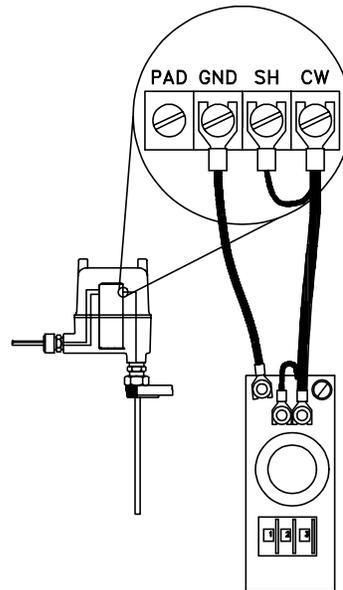

Figure 3-11
In some applications, it is difficult or even impossible to completely fill or empty a vessel. In such a case, it is desirable to have a secondary calibration standard such as the Drexelbrook Model 401-6-8, which can be used to simulate the capacitance of an empty or full vessel. The following procedure permits recalibration of an instrument without the necessity of emptying the vessel. Figure 3-11 shows a typical calibration standard. Refer to the calibration standard manual (401-6-8) for proper connection and operation.
- B. Connect the calibration standard to the instrument. See Figure 3-11.